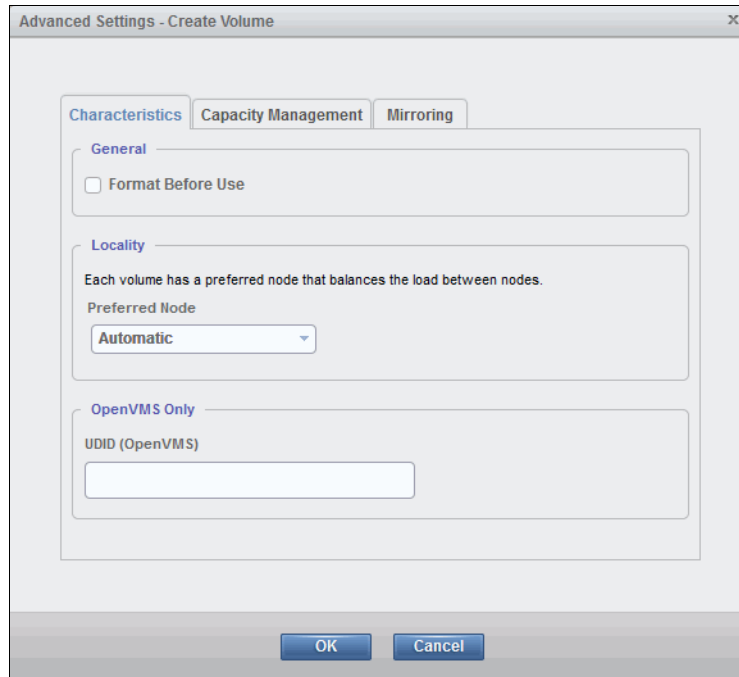

Figure 5-5 Advanced Settings for volume creation
4. Click **Advanced** to view more options, as shown in Figure 5-5.